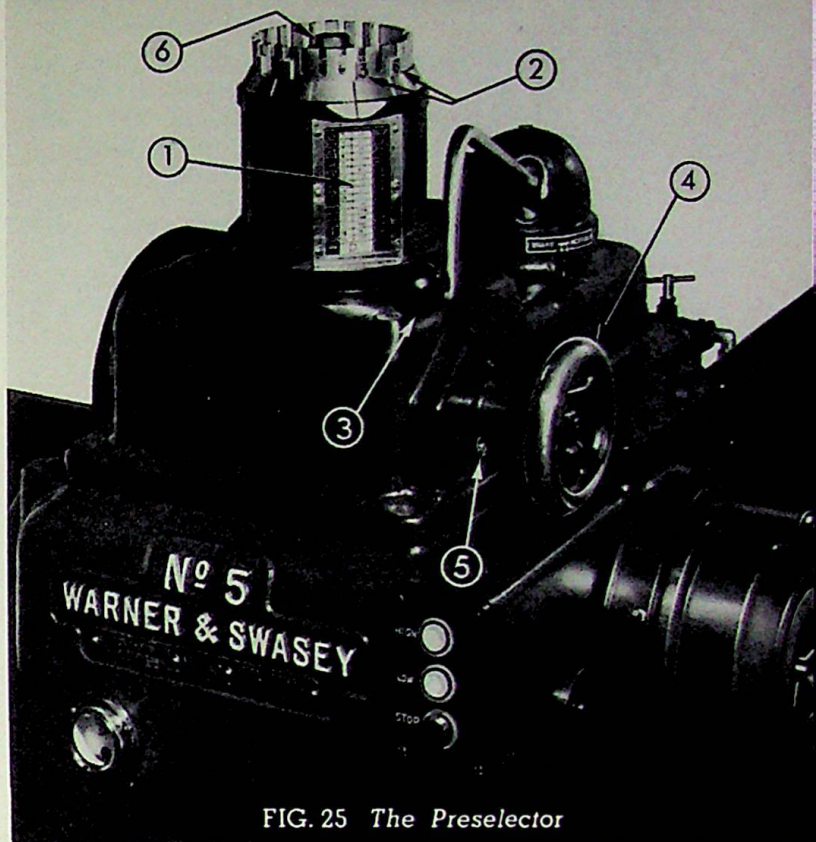
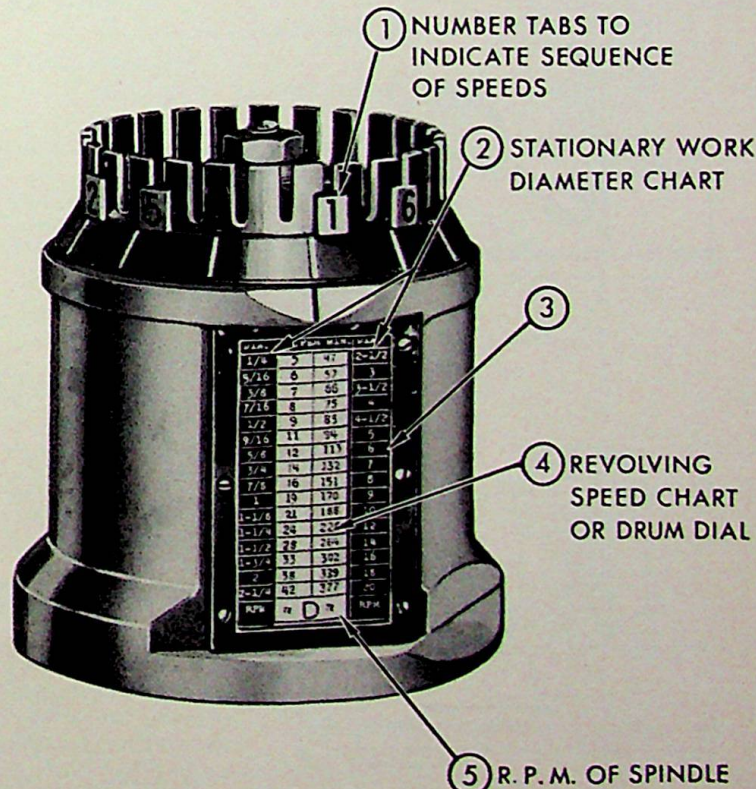

FIG. 25 The Preselector
FIG. 26 The Drum Dial, Number Tabs and Stationary Work Diameter Chart
1. The **CHART and DRUM DIAL** (1) Fig. 25, which shows surface speeds for all work diameters for the capacity of the machine, and which is rotated by the hand wheel (4) Fig. 25.
2. The **NUMBER TABS** (2) Fig. 25, on top of the drum, which show the correct speeds for each cut. After the machine is set up, the operator simply follows the number tabs.
3. The **SINGLE LEVER** (3) Fig. 25, which shifts all gears and operates the clutch and head brake. The operation of the Preselector is very simple. Study these instructions carefully to get the greatest benefit from the unit.
The Preselector is designed so that the operator can quickly select the correct r. p. m. to produce the proper surface feet per minute for any diameter to be cut by simply turning the handwheel (4) Fig. 25.
The proper surface speeds are selected by turning the handwheel (4) Fig. 25, which rotates the drum dial. The surface speed chart mounted on the drum dial, (shown in detail at (4) Fig. 26), gives surface speeds in feet per minute for the diameters shown on a stationary chart in the window (2) Fig. 26.
Turn the drum dial until a surface speed figure within this range appears in the window opposite the 6" diameter on the stationary chart as at (3) Fig. 26. In this particular case it would be 113 feet per minute. Insert the number tab 1 in the slot in the drum as shown (1) Fig. 26 (see also Fig. 28). In doing this you have selected and numbered the correct speed for the first cut.
The capital letter in the r. p. m. column, (5) Fig. 26, makes it easy to note for future reference the correct speeds used on a particular job.
Remove the nut (6) Fig. 25, which holds the drum dial, and lift the drum out of its housing. Remove the wire spring clip inside the drum and a new chart can be slipped in place.
In reassembling, the chart must be synchronized with the Preselector mechanism. This is accomplished by turning the handwheel (4) Fig. 25, until the line on the end of the spool shaft (5) Fig. 25, matches the line on the side of the head cover. Then pull the shifter lever down to lock the drum shaft. Rotate the drum until the neutral position on the chart is centered in the window. With the shifter lever still down, tighten the nut (6) Fig. 25, securely. Now, test the drum for lost motion. The line on the drum should move an equal amount to the left or right of the line on the housing. If this is not the case, loosen the nut and readjust the drum to centralize the location.
Caution: When tightening the nut (5) Fig. 25, be careful not to strike the prongs of the drum with your wrench. The drum is made of aluminum alloy and might easily be broken.